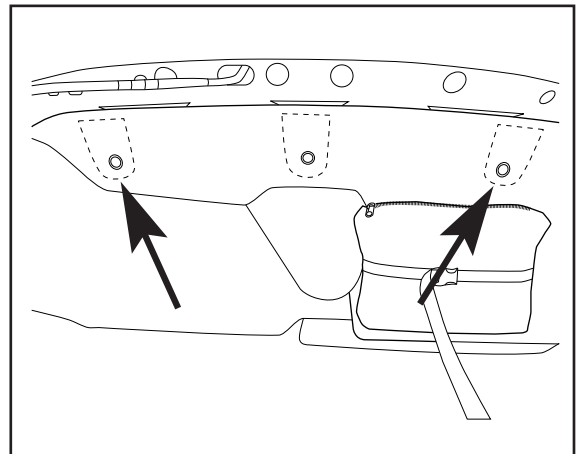

Fig. 1
2. Locate the two mounting points in the underside of hatshelf area indicated by the arrows (Fig. 1). Two push-pin retainers visible outside the carpet liner, into holes in an aluminum body panel that will be used as mounting points for the net hardware.